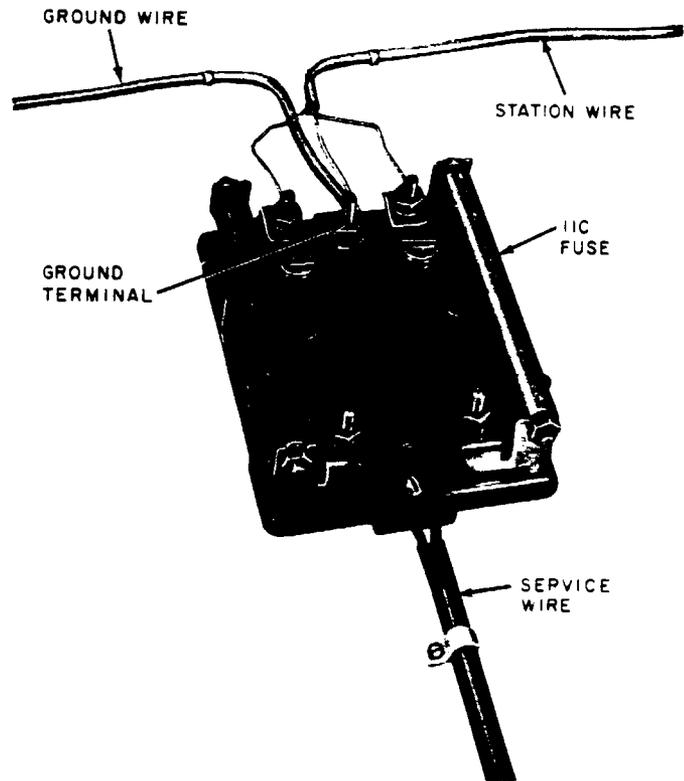
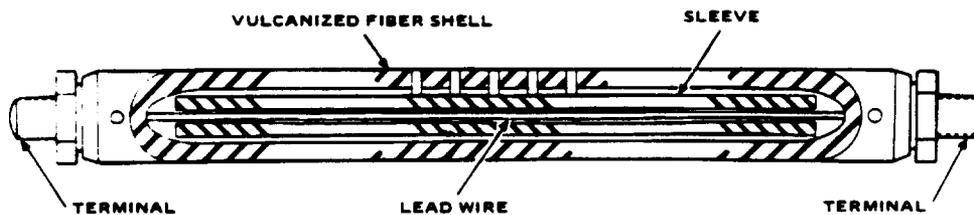

Figure 40—106C Protector (LA)
Figure 41—11-Type Station Line Fuse (DA)
5.01 The 106C(LA) protector (Figure 40) has five binding posts, two 2B2A (DA) protector units, and two 11C(DA) fuses (Figure 41).